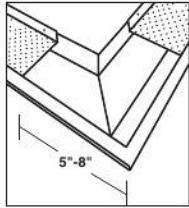

Fig. 3a
4. To install an **outside corner**, stop the section of Gutter Warrior™ 5-8" from the outside corner, leaving a space to apply the gutter sealant. (Fig. 3a)